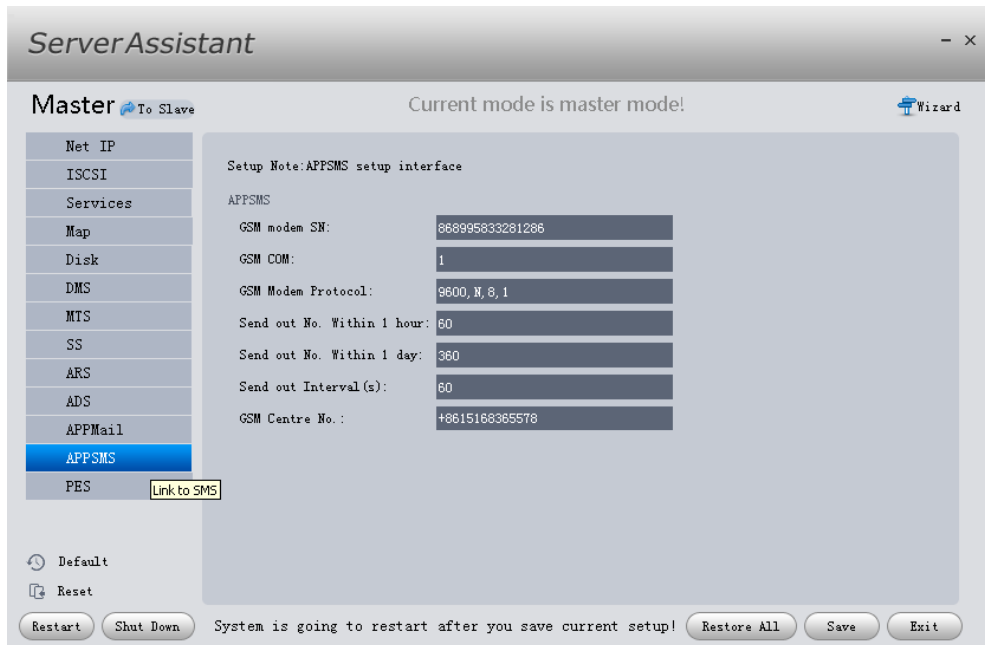

Figure 2-13
- g) Check SMS. System displays the following interface. See Figure 2-13.